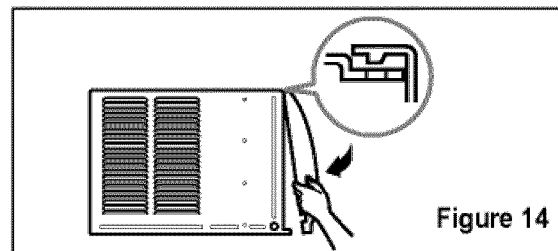

Figure 14
2. Attach the front grille to the cabinet by inserting the tabs on the grille into the tabs on the front of the cabinet. Push the grille in until it snaps into place. (See Figure 14)